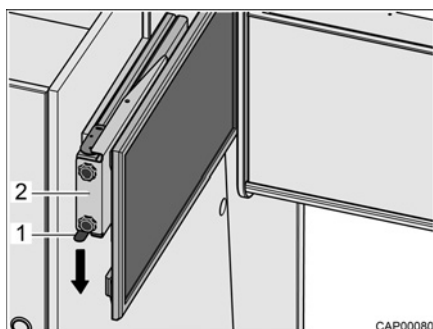

Fig. 49 Pull-out with flat screen
- Press catch spring (Fig. 49,1) downwards and pull pull-out (Fig. 49,2) with flat screen out horizontally towards the centre of the vehicle.
- Push the pull-out (Fig. 49,2) with flat screen in horizontally as far as it will go. The catch spring (Fig. 49,1) engages audibly.